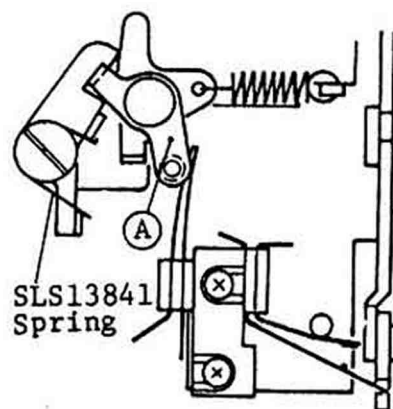

Fig. 89-3
While depressing the shutter release button, never return it, check that the lever (A) pushes contacts of the main SW1 as shown in the Fig.89-3.